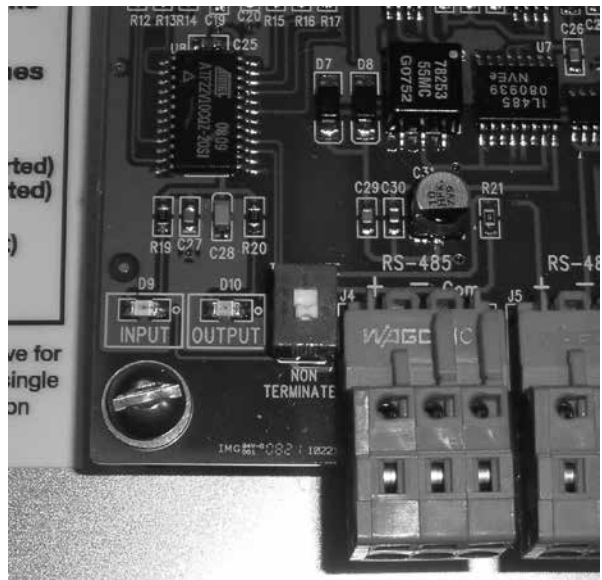

Figure 19. Setting DIP switch
16. Set the termination resistor DIP switch located to the left of the orange RS-485 connectors at the bottom of the communication board. See Figure 19. Typically, the switch will be set to terminate for the communications cards located at the beginning and end of an RS-485 communications wire. The communications cards between the first and last of a system should have the switch set to non-terminating. Refer to the Operation section of this manual for more information.